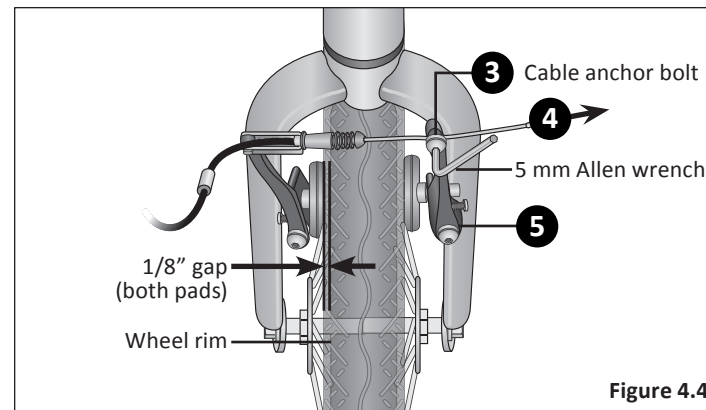

Figure 4.4
- 3** Check the brake cable is seated in the brake lever. Using a 5 mm Allen wrench loosen the cable anchor bolt enough so the brake cable can move freely. **Figure 4.4**